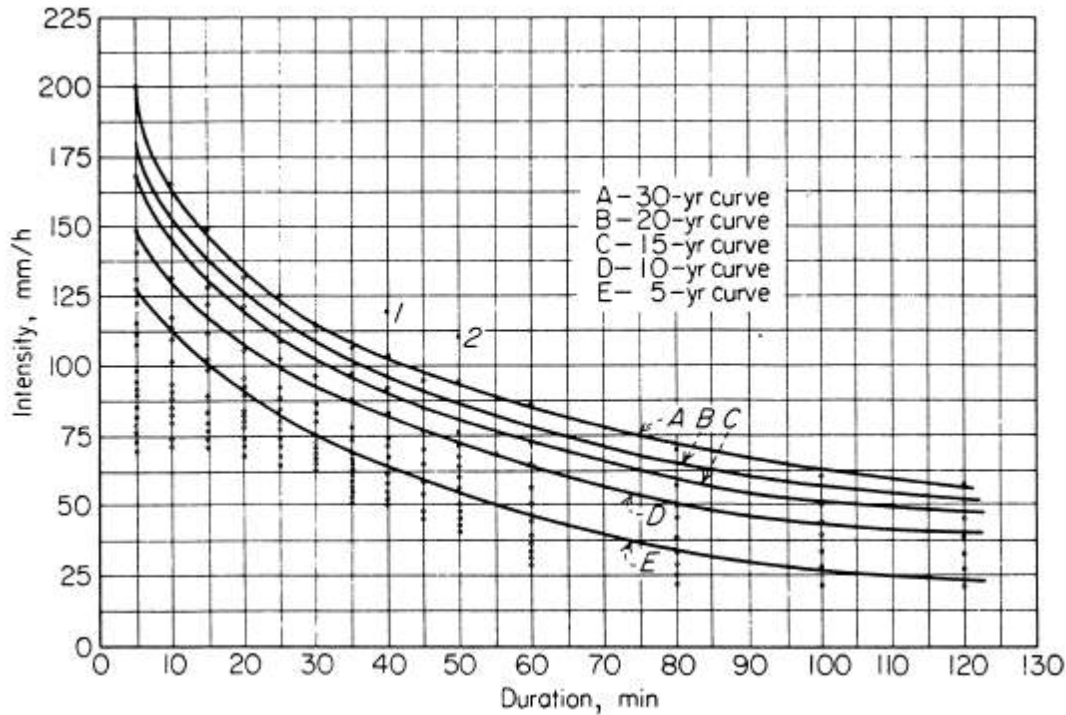

Fig. 13-4: Rainfall curves derived from storm records.
**Problem 5:** An urban area has an area of 100000 m2 and a runoff coefficient of 0.45. Using duration of 25 min and the curve of Fig. 13-4 compute the runoff resulting from point rainfalls with a recurrence interval of 5 and 15 years?